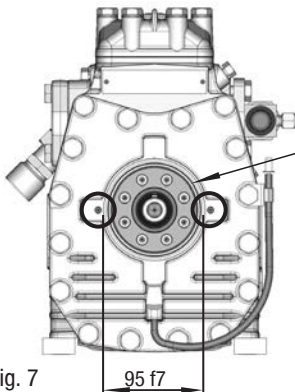

Fig. 7
- To absorb the magnetic field of the electromagnetic clutch, the front bearing flange has a snug fit $\varnothing 95 \text{ f7}$ (see Fig. 7).